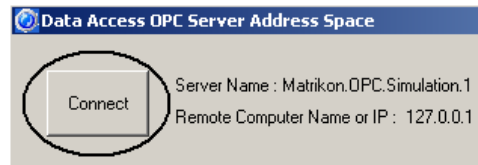

Fig 33 Connecting to the OPC server
- A new window shows up ('Data Access OPC Server Address Space'), press 'Connect' to start browsing into the server data (Fig 33).